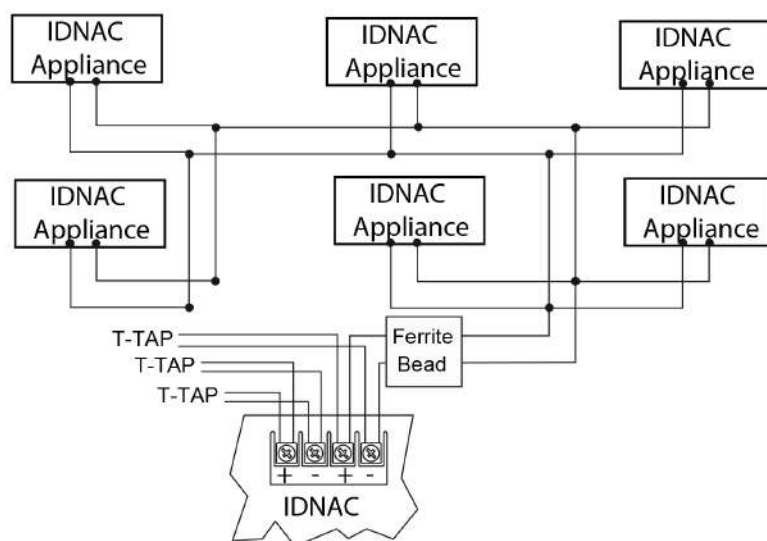

Figure 46: Class B wiring
- b. Each IDNAC + and - terminal is rated for 2 identical wires. This allows up to 4 Class B T-TAP circuits directly from each IDNAC terminal block. See Figure 46.